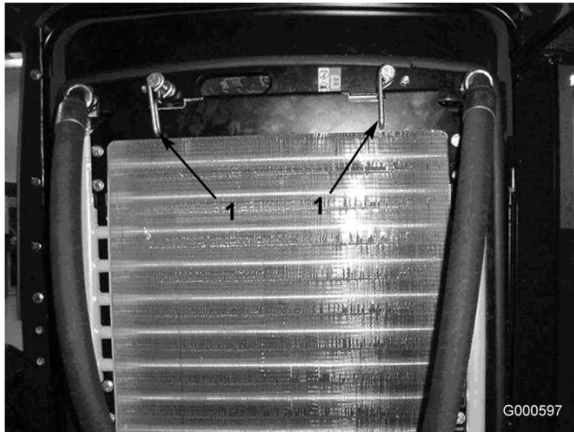

Figure 49
2. Rotate latches (Figure 49) securing the oil cooler to the frame.